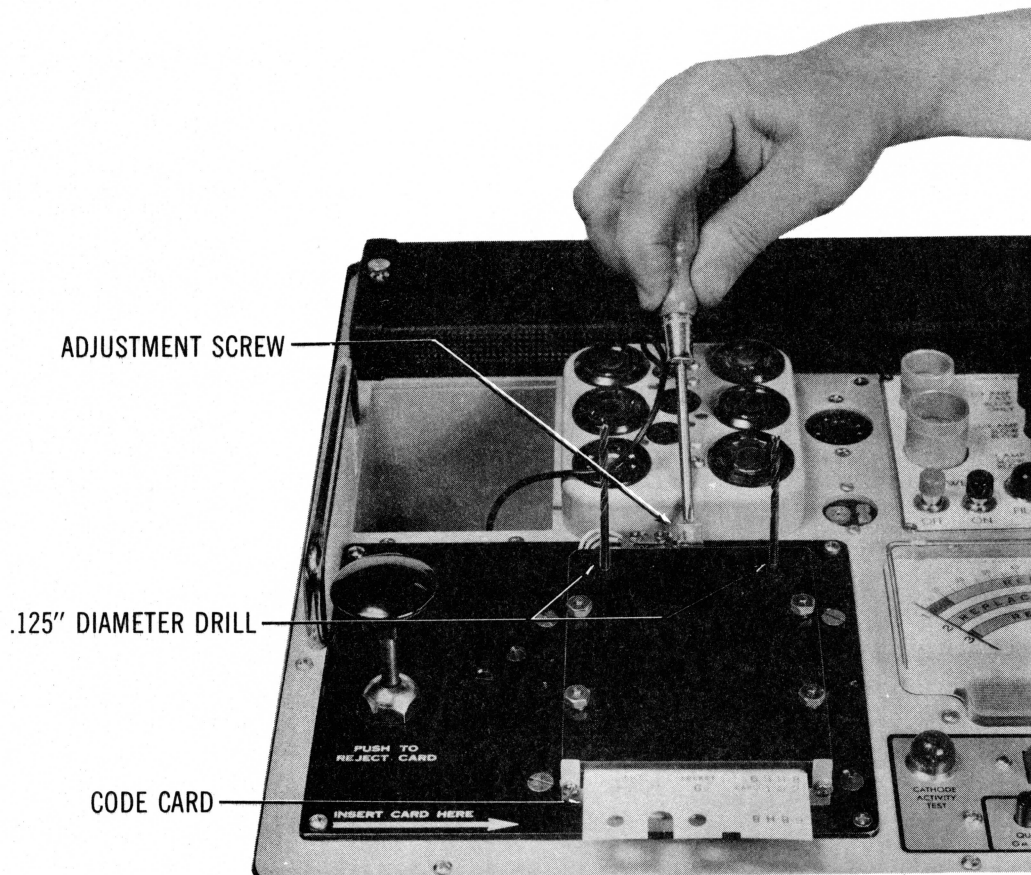

Figure 16 - Adjustment of Upper
The tester meter and the main B+ supply are protected against overloads by means of a slave relay protective circuit whose primary components are a line slave relay K101 and two reed relays K102 and K104. (See Section 5.21 and Figure 16). Cards 52A and 53A are used to check out part of this circuit as follows:
2. Insert two .125 inch diameter (1/8 inch diameter) pins or drill shanks into the switch plate holes A-1 and L-1 to retain the code card (See figure 16).